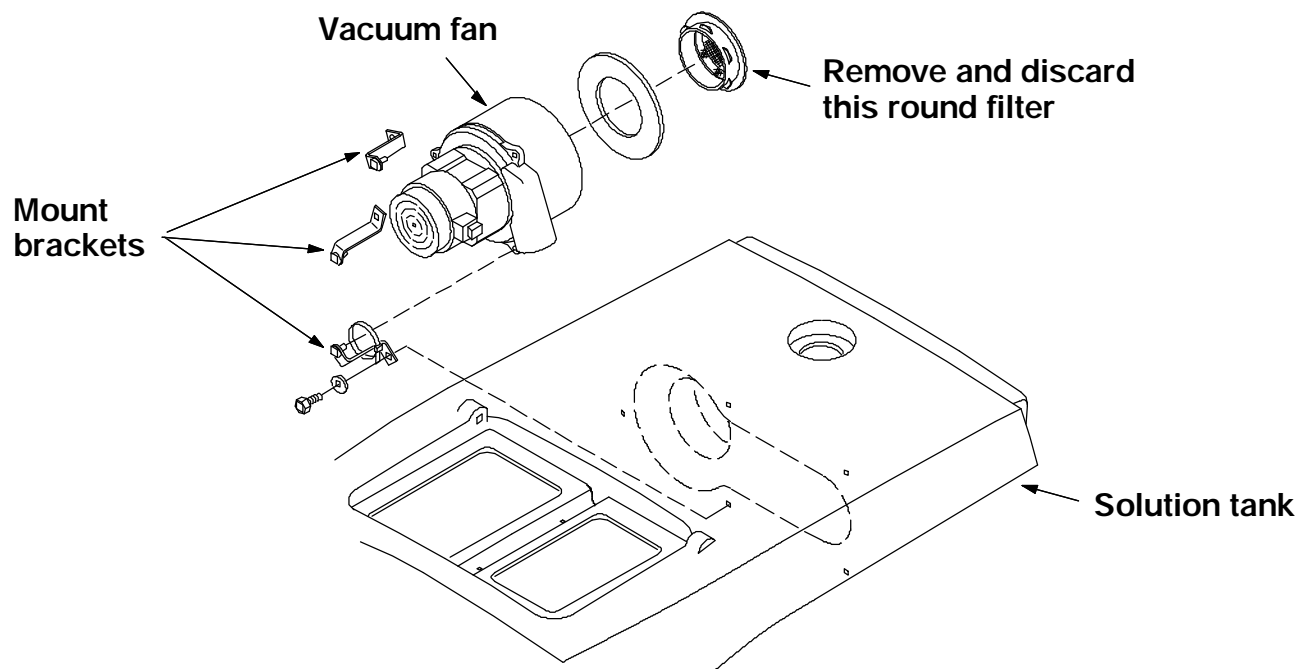

FIG. 1 - Old Vacuum Fan Filter
(Refer to FIG. 1 and 2)
1. Raise the solution tank and engage the prop arm. (Refer to FIG. 1 and 2)
2. Remove the the old filter from the mount hole. Discard the old filter. (Refer to FIG. 1 and 2)
3. Install the new filter (1) in the 4" x 6" opening on the right side of the recovery tank.
NOTE: The pleats on the new filter face down. (Refer to FIG. 1 and 2)
NOTE: Always clean the new filter by blowing low pressure air from the metal screen side to the pleated side, then use low pressure cold water to rinse any remaining debris in the same direction. (Refer to FIG. 1 and 2)